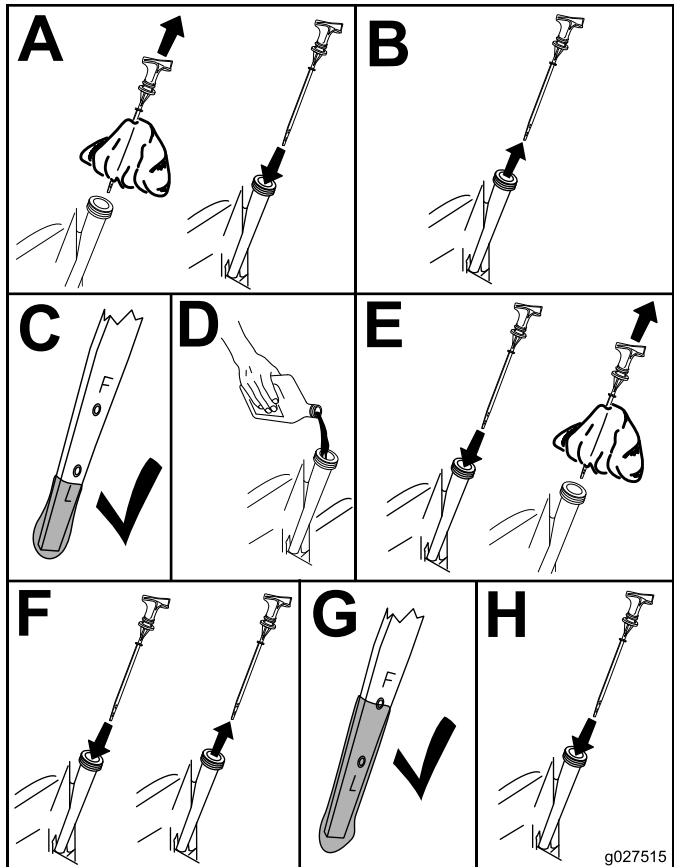

Figure 27
3. Check the engine-oil level (Figure 27).